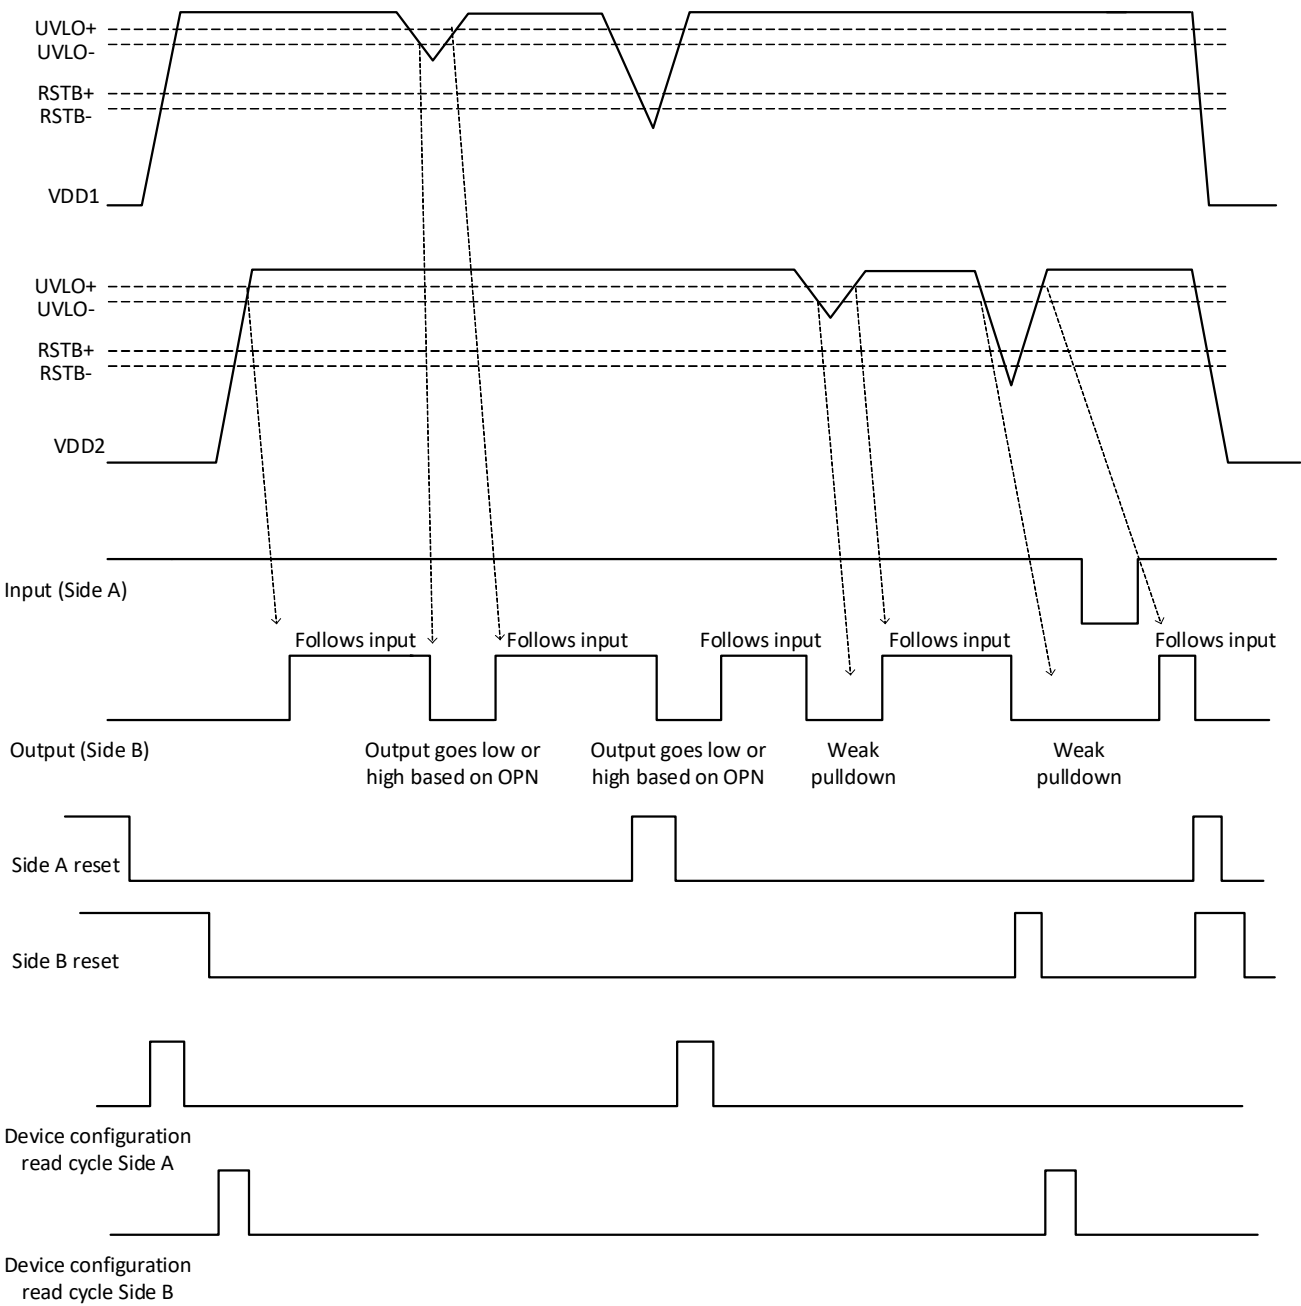

Figure 9. Device Behavior during Startup
Device behavior during start-up, normal operation, and shutdown is shown in Figure 9, “Device Behavior during Startup,” on page 10, where UVLO+ and UVLO– are the respective positive-going and negative-going thresholds. Refer to the following tables to determine outputs when power supply (VDD) is not present and for logic conditions when enable pins are used.
4. “Powered” state (P) is defined as 2.25 V < VDD < 5.5 V.
5. “Unpowered” state (UP) is defined as VDD < 2.25 V.
7. UD = Undetermined. Refer to Figure 9, “Device Behavior during Startup,” on page 10, the start-up time from unpowered state, below 1.7 V (RSTB) threshold to powered state, is 0.3 ms. If VDDO only dips below 2.1 V (VDDOK level in Figure 3.1) but stays above RSTB level, the start-up time is 1 μs.
3. “Powered” state (P) is defined as 2.25 V < VDD < 5.5 V.
4. “Unpowered” state (UP) is defined as VDD < 2.25 V.
5. UD = Undetermined. Refer to Figure 9, “Device Behavior during Startup,” on page 10, the start-up time from unpowered state, below 1.7 V (RSTB) threshold to powered state, is 0.3 ms. If VDDO only dips below 2.1 V (VDDOK level in Figure 3.1) but stays above RSTB level, the start-up time is 1 μs.